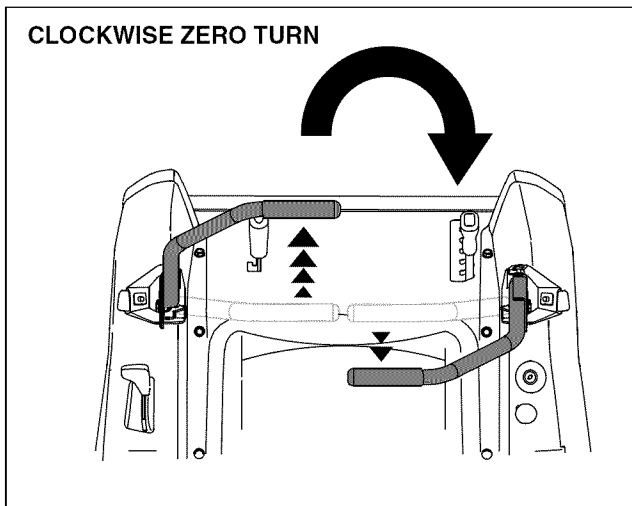

Figure 19
- To turn clockwise, move the left control lever forward while simultaneously moving the right control lever rearward. See Figure 19.